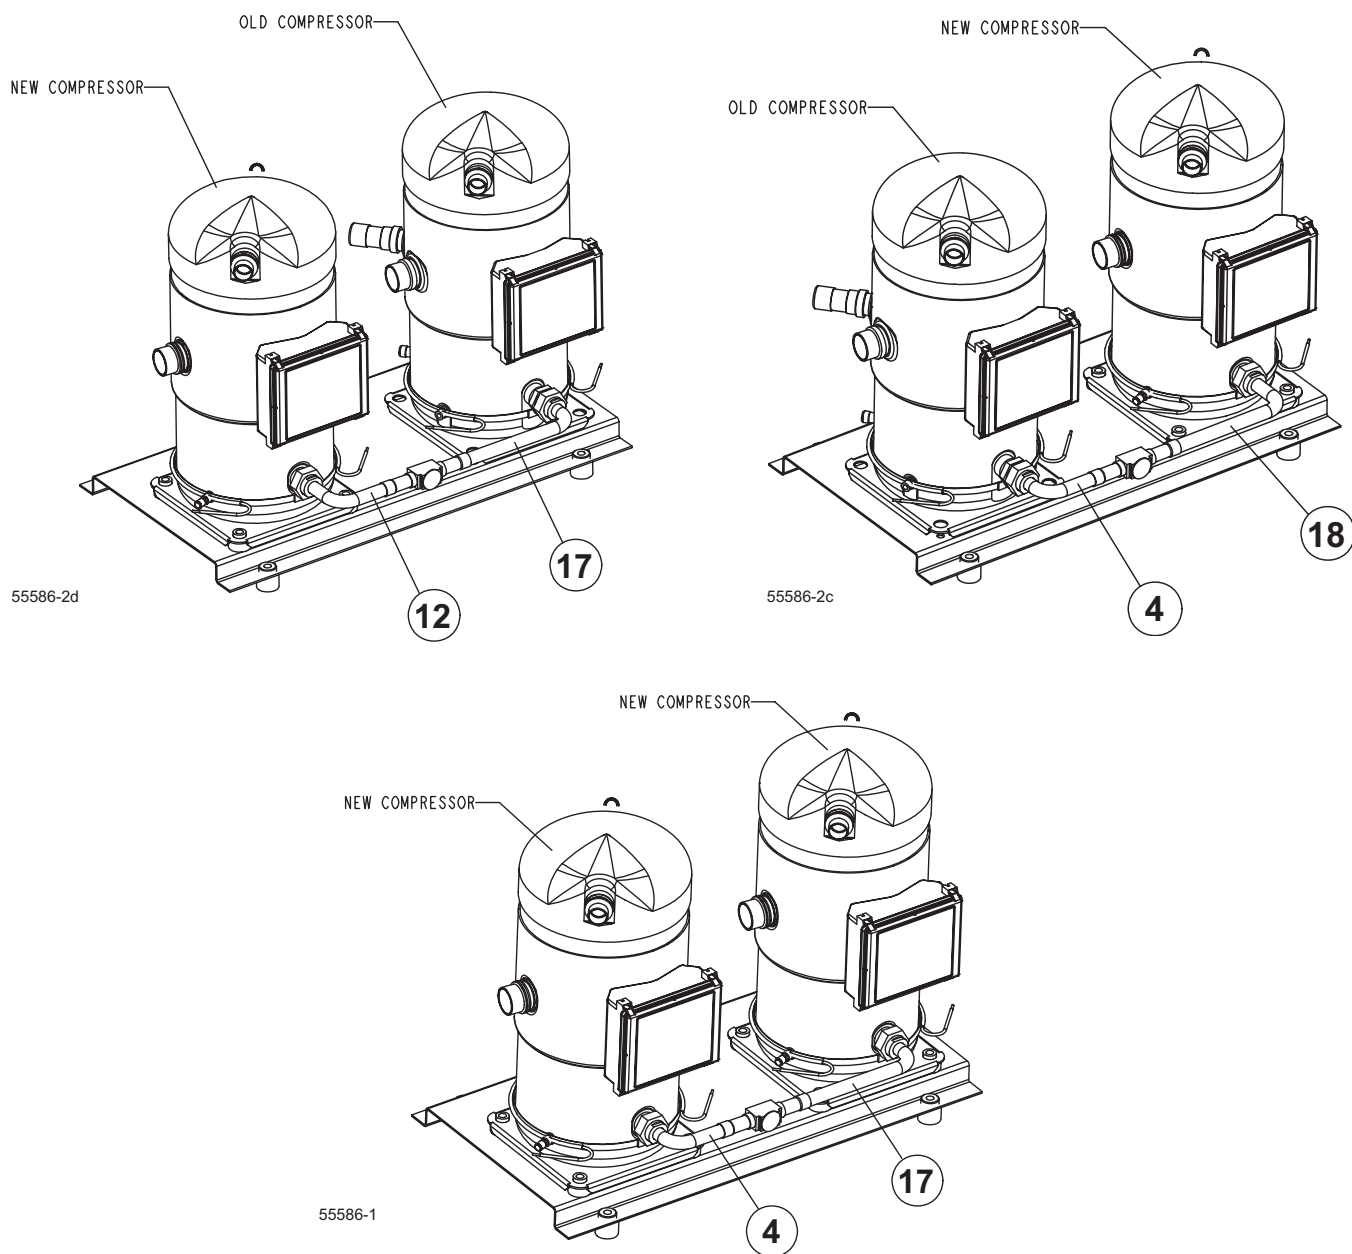

FIGURE 8 – TANDEM COMPRESSOR PIPING INSTALLATION (REF. TABLE 2, PAGE 3)
11. Install gas equalization and oil piping using the pieces shown in the following drawings. Locate the sight glass according to the location(s) the new compressors are installed. Install the sight glass at a 90 degree angle (horizontal) as shown in the drawings. See the following drawings in Fig. 8 for location of the sight glass. Be sure the sight glass is installed to avoid interference with the frame rail and be clearly visible. Remove the piping assembly from the compressor connections to braze the assembly. Also remove the gasket (1) while brazing. This will assure the o-ring (10) and gasket (1) are not damaged by the heat. Braze using Silfoss 15 (15% brazing rod). Be sure to use a nitrogen purge and wrap the sight glass with wet paper towels when brazing. Fit the completed piping assembly to the compressors and tighten the threaded fittings as outlined in Steps 9 and 10 (see pages 9 and 10).